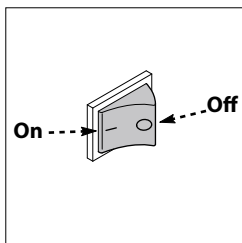

Fig. 12
Make sure the "ON/OFF" switch is in the "OFF" position. The power switch has international symbols for 'on' and 'off': On (--) Off (O), (Fig. 12).